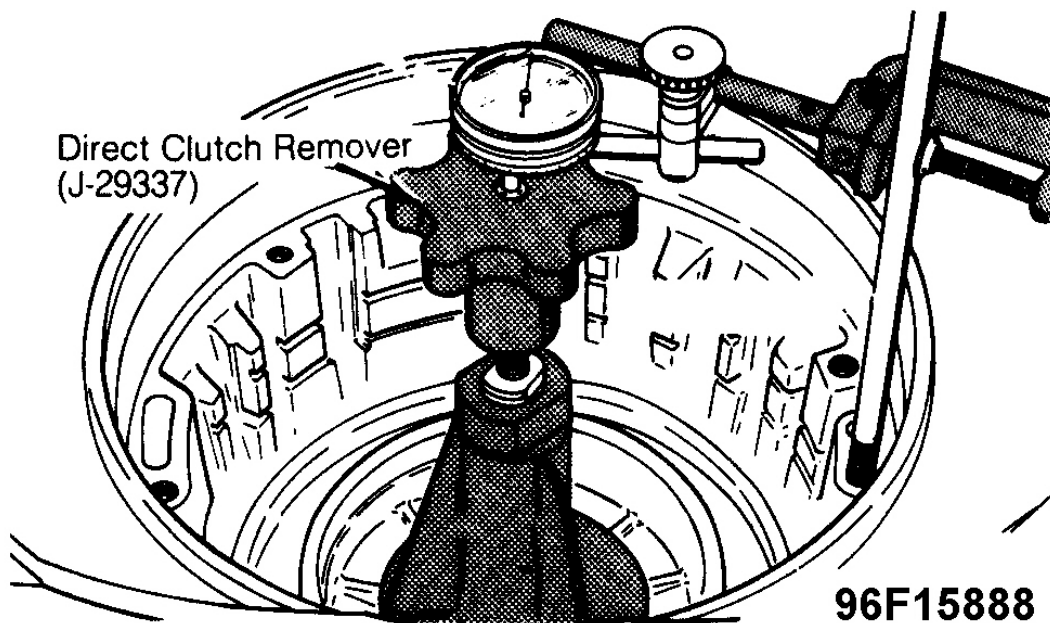

Fig. 11: Checking Front Unit End Play
1. Push forward clutch shaft downward. Install Forward And Direct Clutch Remover (J-29337) in end of shaft. Mount dial indicator and clamp assembly. See **Fig. 11** . Position indicator point on top of clutch remover.
2. Install Direct And Forward Clutch Remover (J-29337) in end of forward clutch shaft. See **Fig. 11** . Pull direct and forward clutch assemblies from case. Separate direct clutch from forward clutch. Remove intermediate band assembly and band anchor pin from case. Remove output shaft-to-forward clutch shaft selective thrust washer.